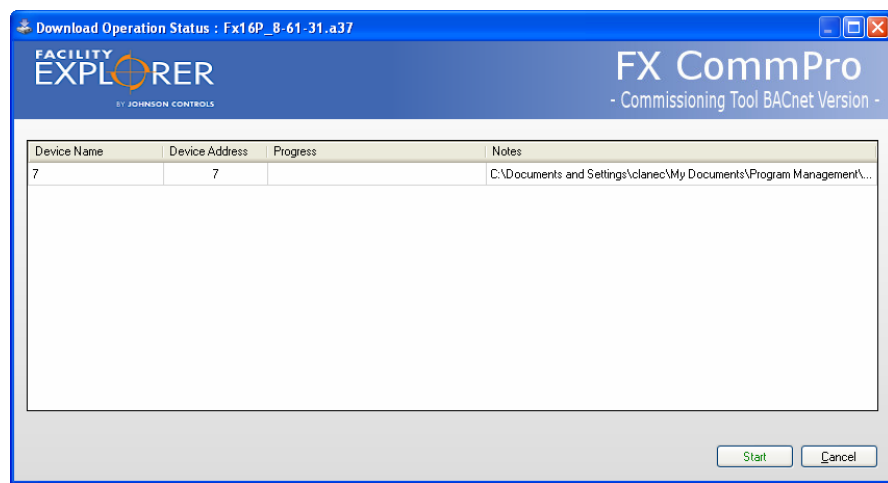

Figure 30: Download Operation Status Window
3. Select the desired firmware file (.a37) and click Open. The Download Operation Status window appears (Figure 30).